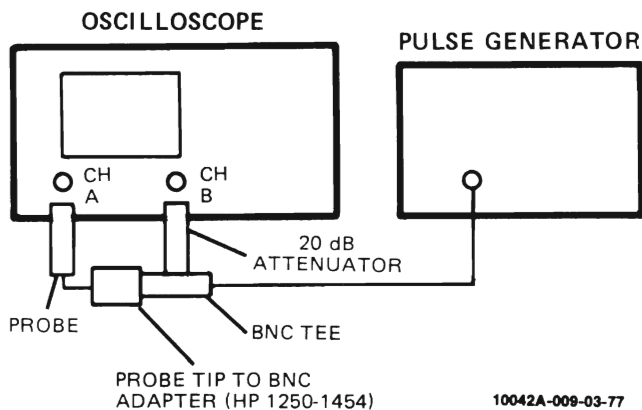

Figure 6. High-frequency Compensation Test Setup
g. Connect equipment as shown in figure 6.